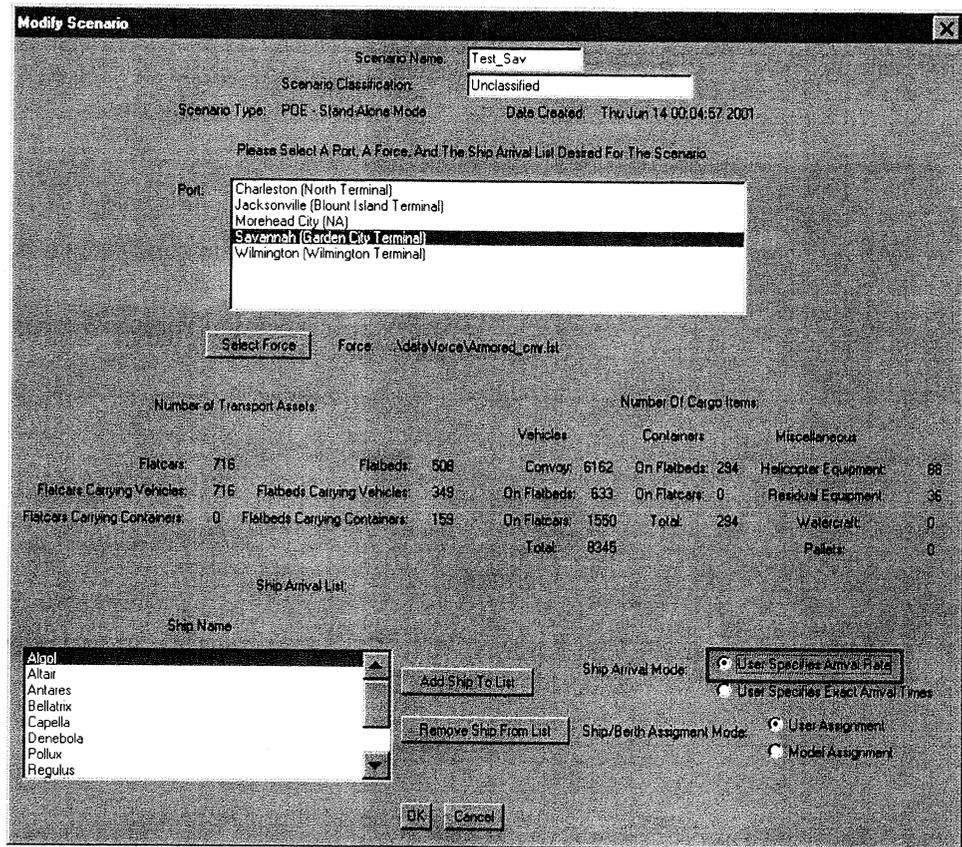

Figure 18: Deterministic Ship Arrival— Option 2
1. When creating a new scenario or modifying an existing scenario, make the following series of choices on the PORTSIM menus and windows (Figure 18):